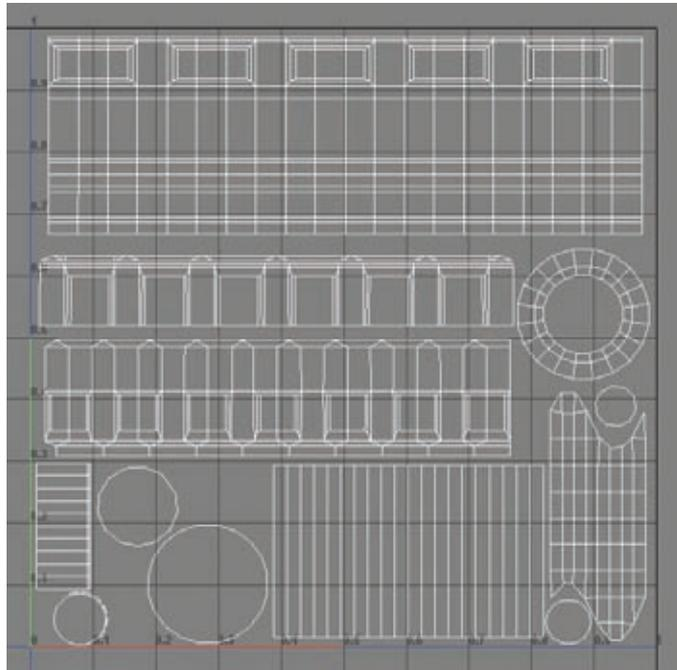

Figure 8.22
- Continue to map and lay out the rest of the geometry in the same fashion. Apply cylindrical maps to the cylindrical shapes and planar maps to the caps and ends. Eventually, you should end up with something similar to Figure 8.22.